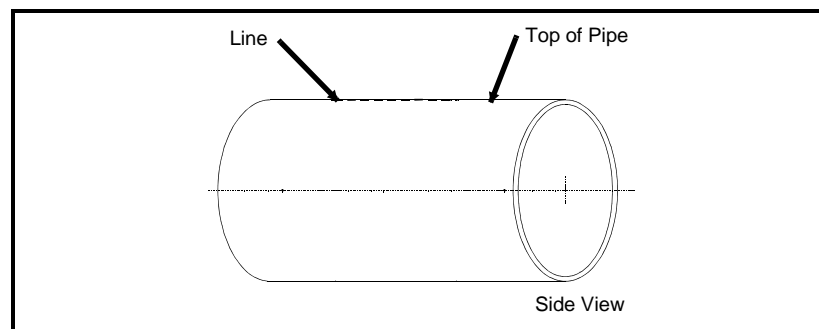

Figure 1-10: Line Parallel to Pipe Axis
4. Find the top of the pipe and use a level to draw a line parallel to the pipe's axis, as shown in Figure 1-10 below.